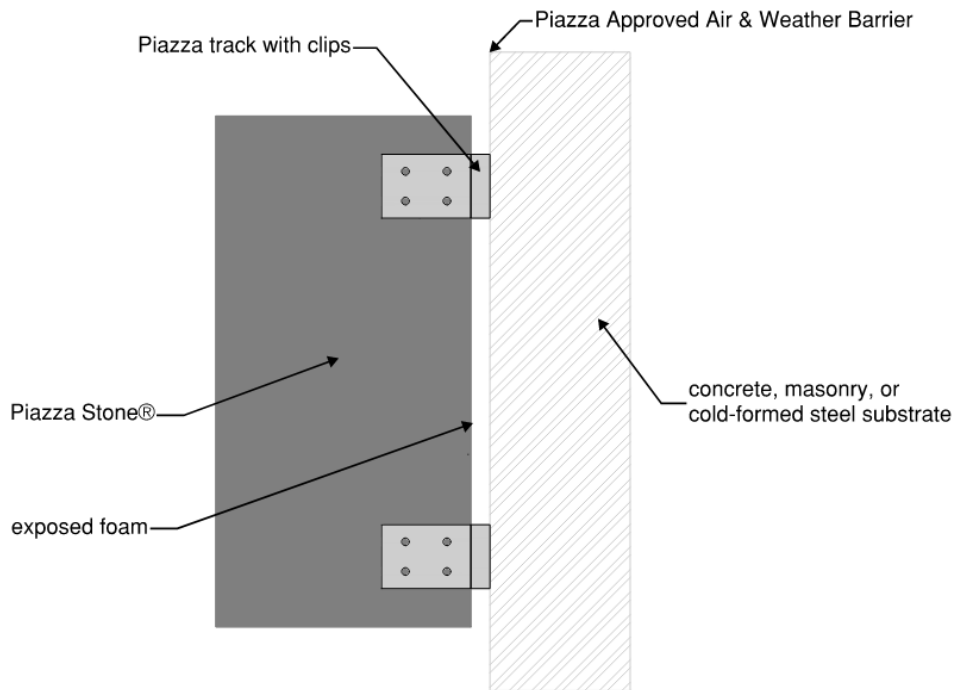

Figure 1. Example of Mechanical Attachment of Piazza Stone® to Substrate
- 1.6.7 A standard mechanical installation example without rigid insulation is shown in Figure 1.